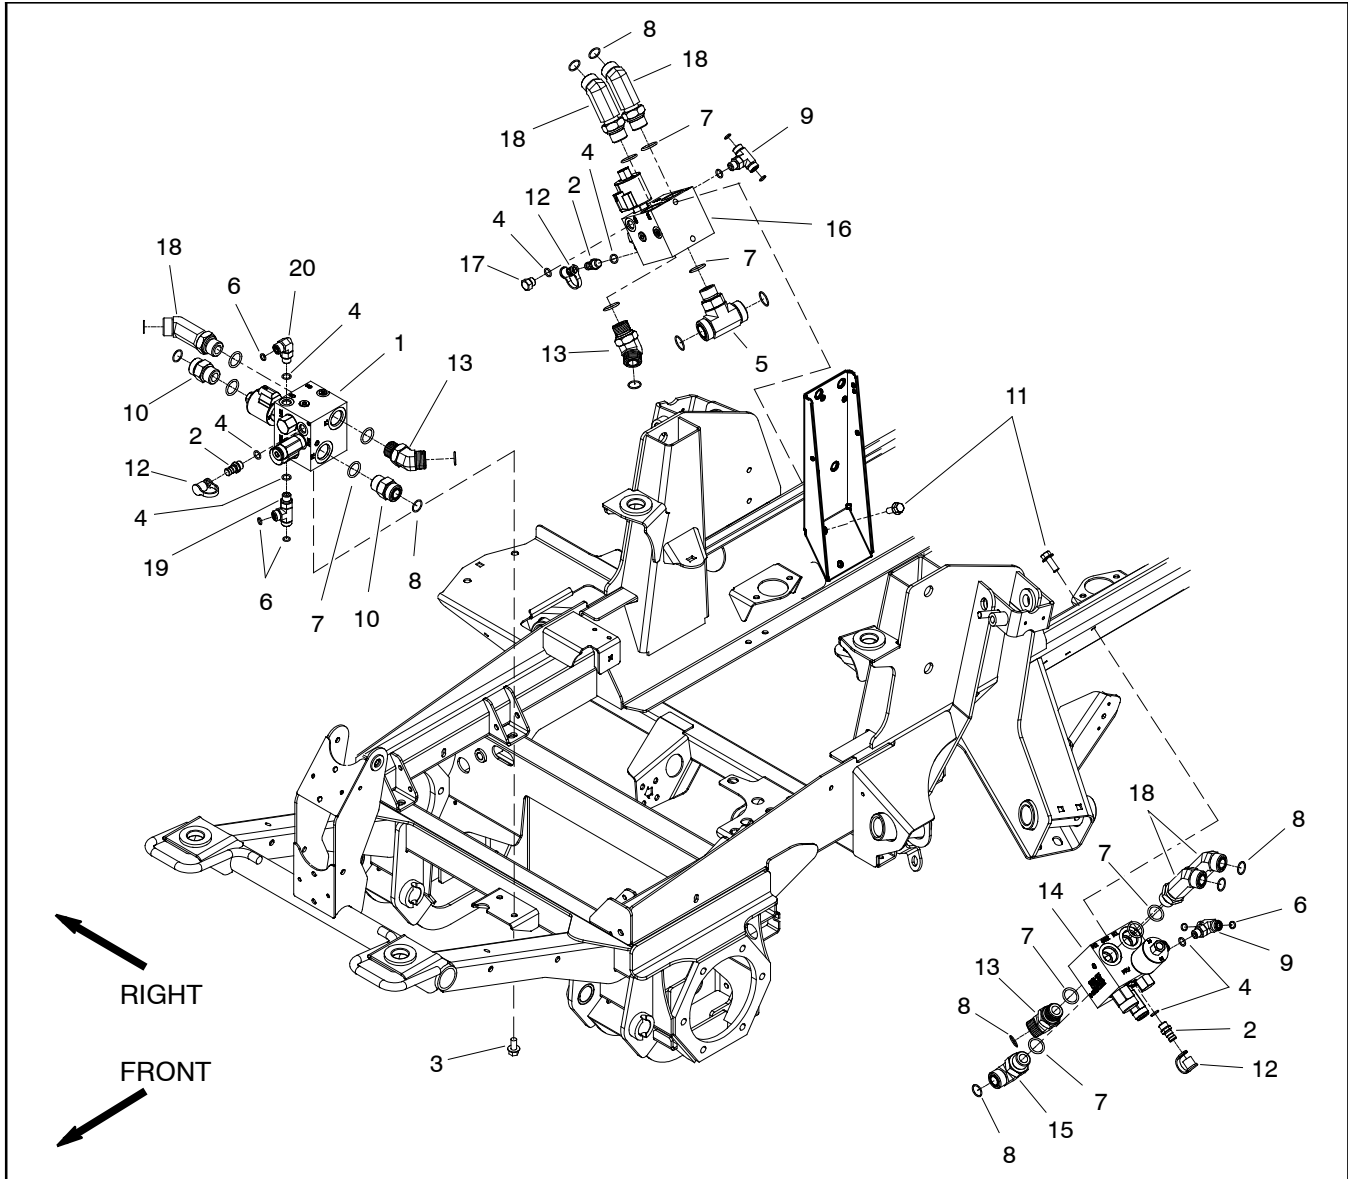

Figure 101
Removal (Fig. 101)
5. Remove PTO manifold from the frame using Figure 101 as a guide.
Installation (Fig. 101)
2. Install PTO manifold to the frame using Figure 101 as a guide.